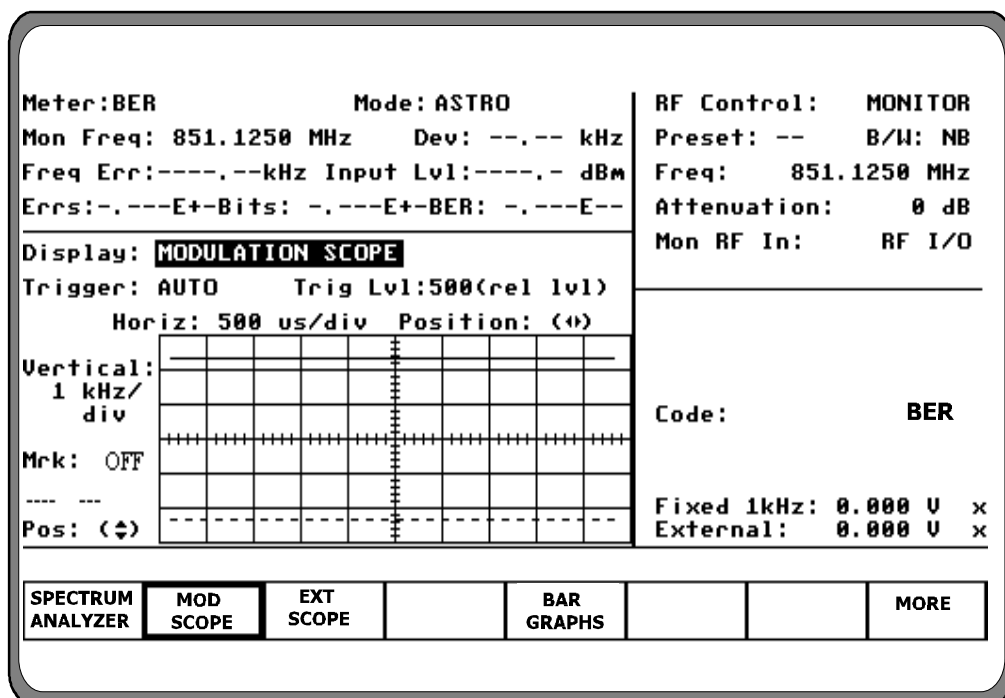

Figure 18-2. Radio (BER Test Mode) BER Meter
- Access the BER Meter by placing the cursor in the Display zone's "Meter:" field and pressing the **more** softkey until the **BER** softkey is presented. Select BER via the softkey to display the BER Meter. A screen similar to figure 18-2 appears.